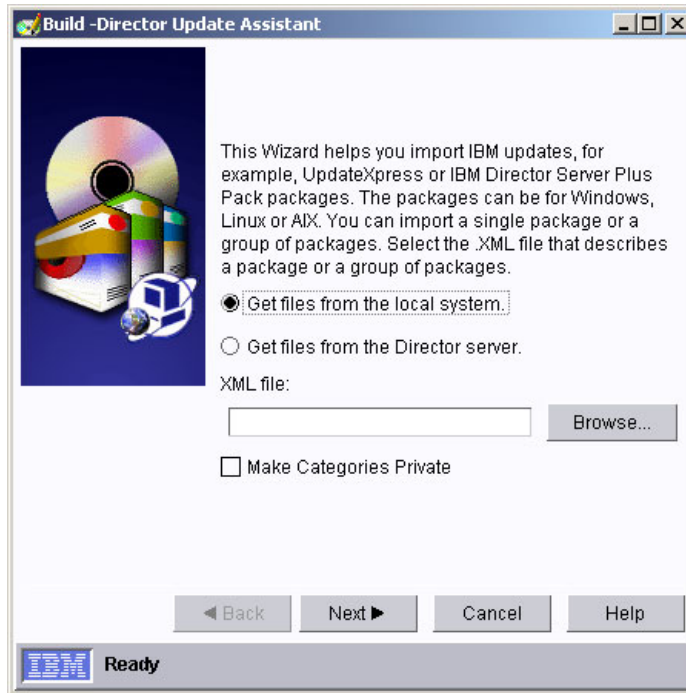

Figure 7-14 Director Update Assistant window
4. Double-click **Director Update Assistant**. The Director Update Assistant window opens. See Figure 7-14 on page 261 for details.